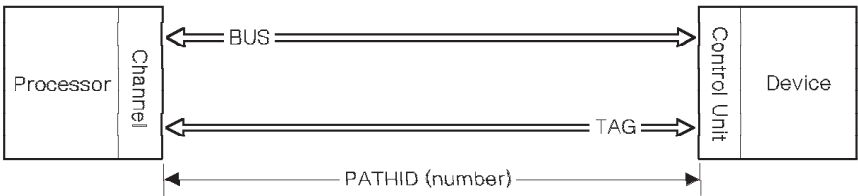

Figure 5-2. Example of a Physical Point-to-Point Link Connection
- Physical point-to-point link connection (Figure 5-2 on page 5-3)